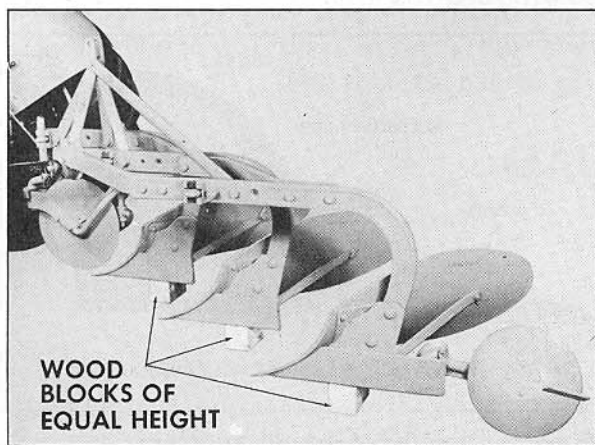

Fig. 14 Blocking up Plow
1. Select a level surface such as a level cement floor, and block up each plow bottom as shown in Fig. 14 using blocks of equal height. The blocks are to be positioned directly under the lower beam bolt with only the land-